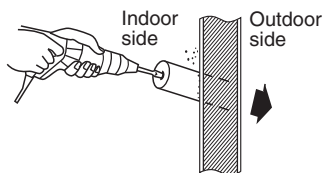

Fig. 3-27
- (8) If the tubing and wiring are to go towards the rear of the unit, make holes in the wall. (Fig. 3-27)